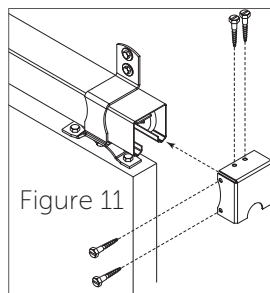

Figure 11
13. Slip the end caps (C) over the ends of the box track. Secure in place using self tapping screws (F) (Figure 11).